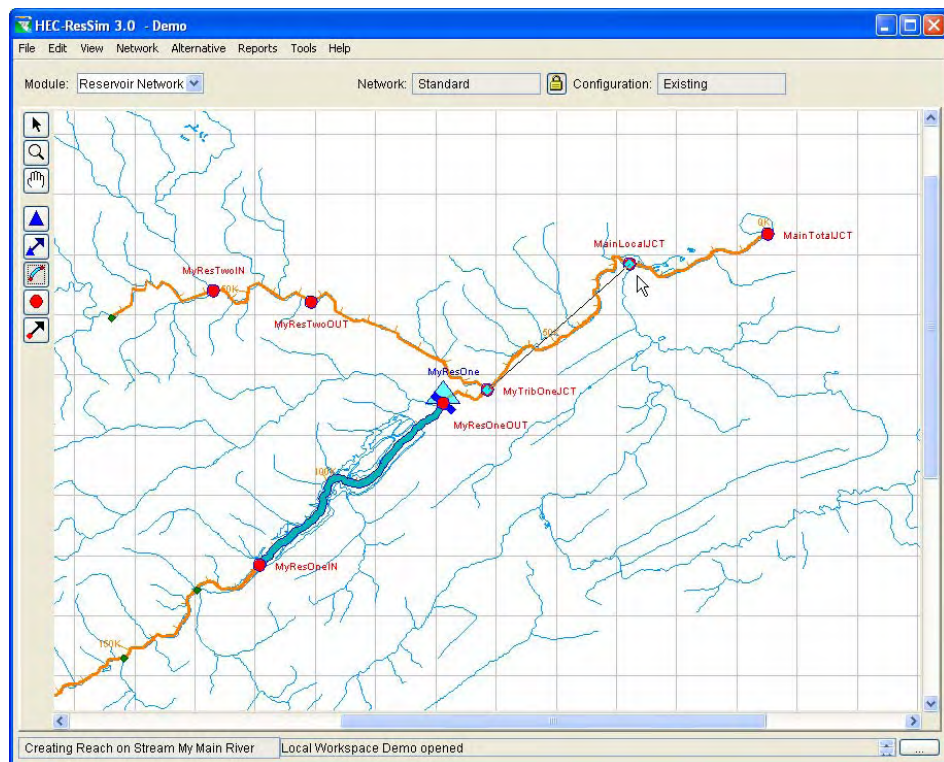

Figure 16 – Drawing Routing Reaches
- **Draw Routing Reaches.** Select the routing reach tool . Hold down the **CTRL** key and click anywhere on the stream to place the upstream end of the reach. Release the **CTRL** key and move the mouse along the stream and click again at a lower station on the stream to place the downstream end, as shown in Figure 16. Routing reaches must be connected to an existing junction. If you start or end a reach where there is no junction one will be created, and you will be prompted to first name the new junction and then name the new reach. Note: tributaries cannot connect to the middle of a reach; they must connect to a junction.